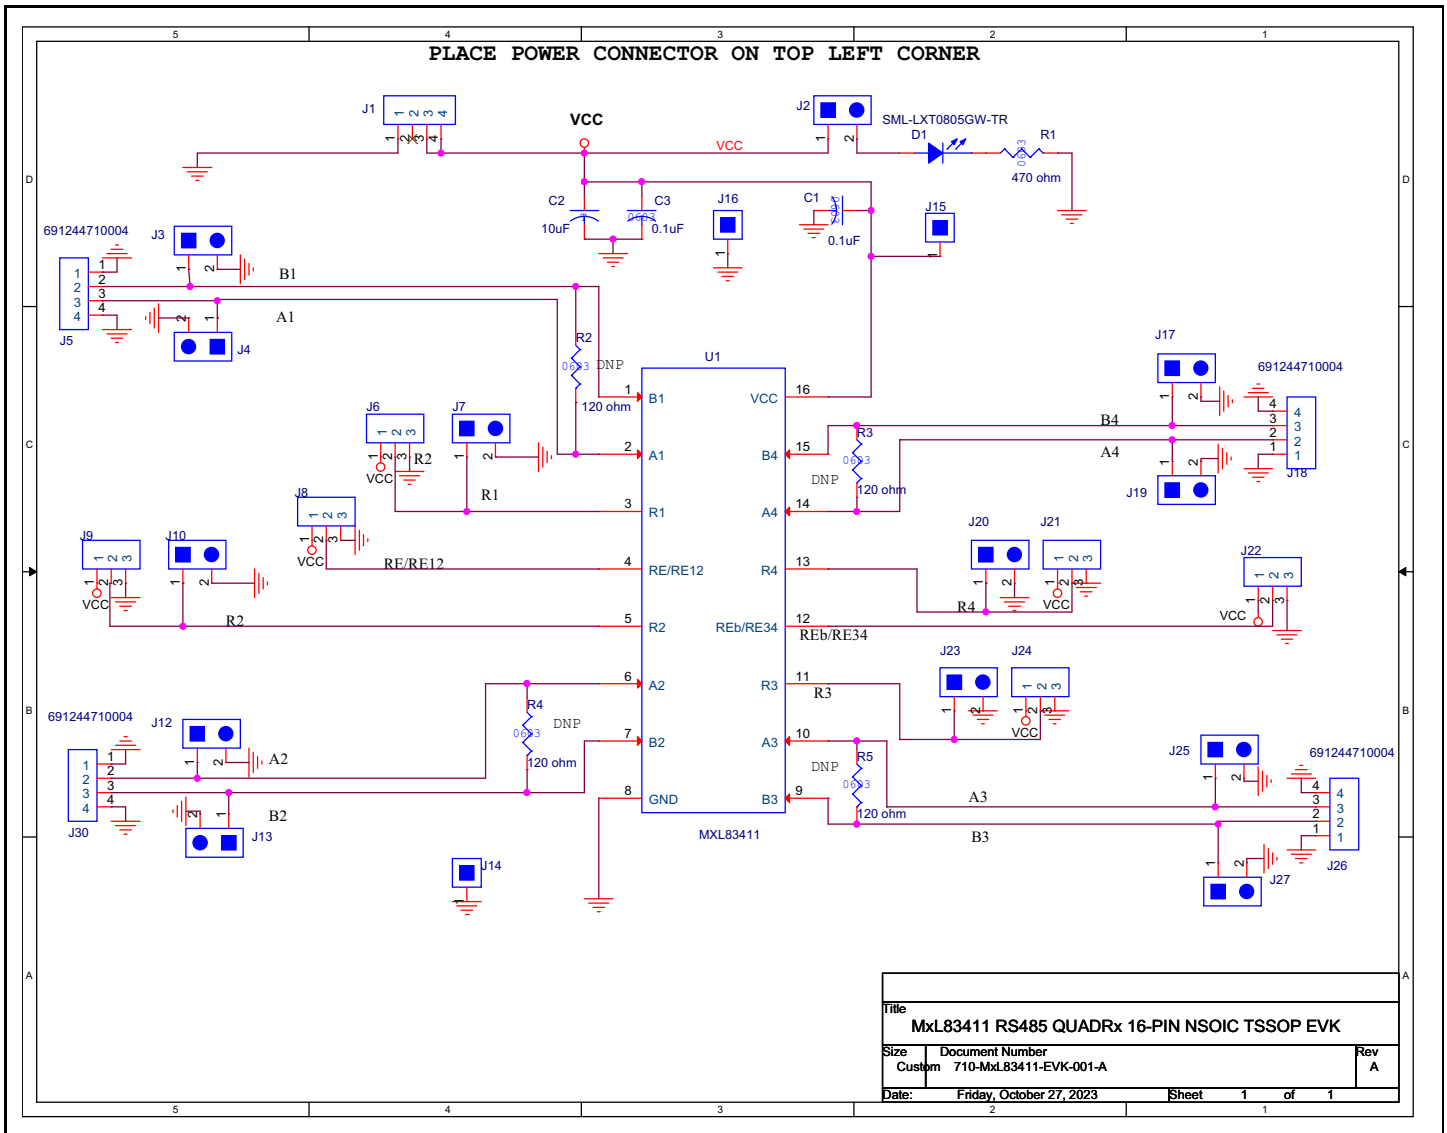

Figure 4: MxL83411 EVK Schematic
- Figure 4 on page 4 shows the schematic of the EVK.